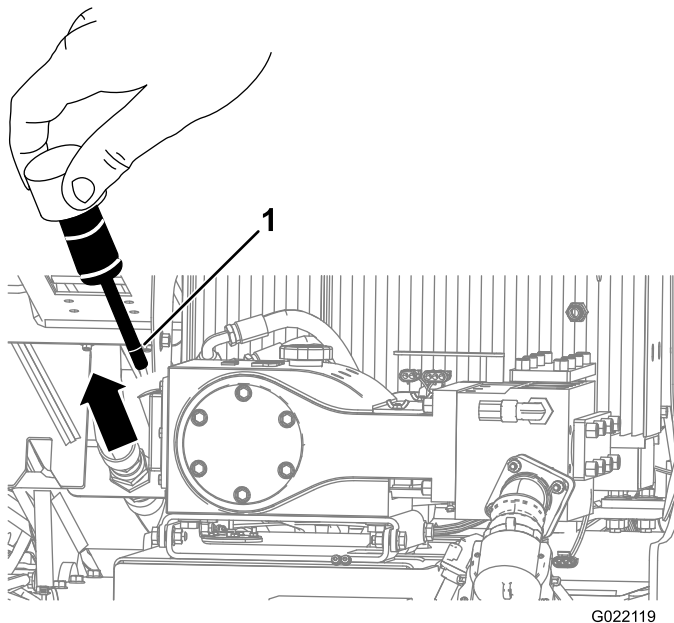
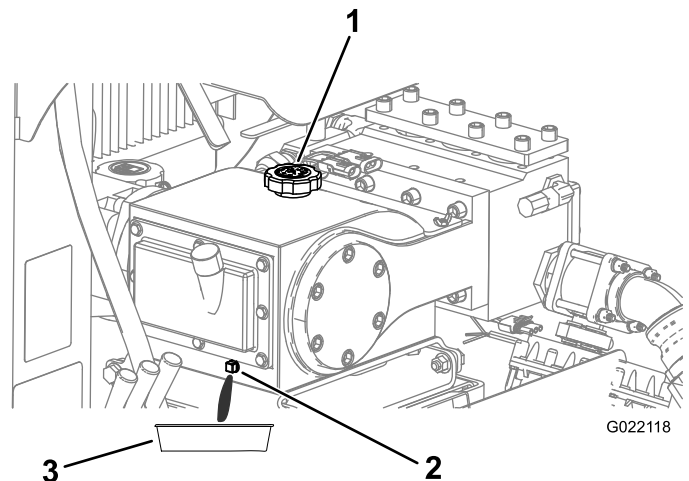

Figure 147
Figure 148
3. Remove the oil dipstick (Figure 147).
4. Ensure that the oil is at the oil-fill line as shown in Figure 147.
4. Remove the drain plug and place a drain pan under the drain-plug hole (Figure 148).
6. Allow all of the oil to drain from drain plug into the oil pan (Figure 148).
8. Remove the oil-filler cap (Figure 148) and add approximately 1.9 L (2 qt) of oil, or until the oil reaches the oil-fill line on the dipstick as shown in Figure 147.